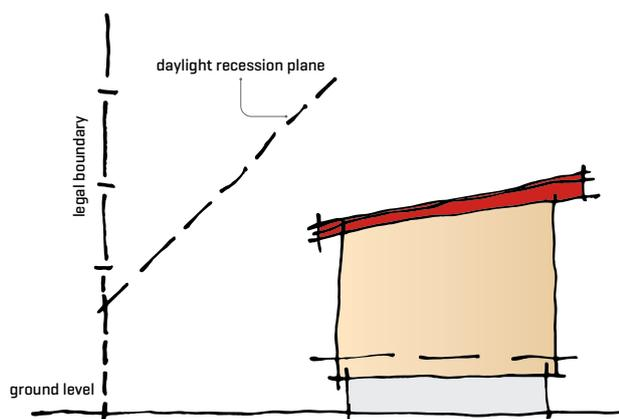

Figure 3. No part of the sleepout can penetrate the daylight recession plane.
**5.1.1** District and unitary plans limit the maximum height of a building relative to the boundary with a daylight recession plane (Figure 3). Recession planes typically run at an angle of 45° or 55° from a spot 2.5 metres above ground on the boundary. No part of the sleepout can be above the recession plane [or resource consent may be required if it is]. Depending on the building design, the recession plane rules may mean that a sleepout must be built at a greater distance from the boundary than the minimum setback distance in Schedule 1.